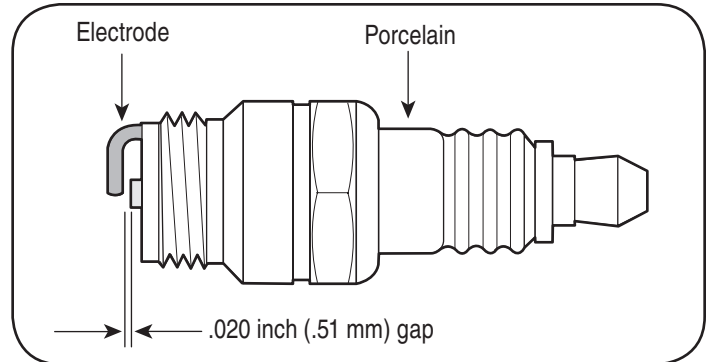

Figure 16
- Remove and inspect the spark plug. Check gap to make sure it is set at .020". See Figure 16.